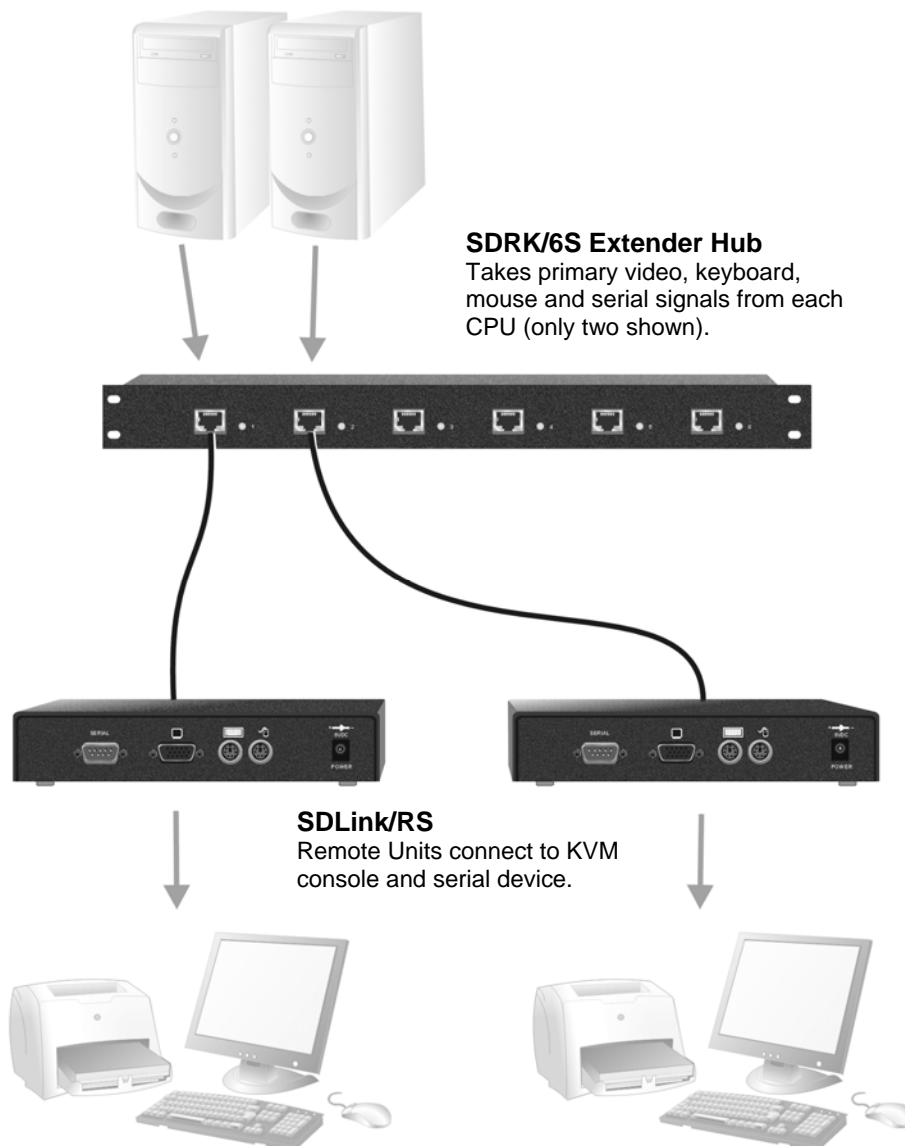

Figure 14 Serial extension for up to six CPUs
- Simple system using SDRK/6S Hub and SDLink/RS Remote Units to extend serial and KVM for up to six PCs (Figure 14).